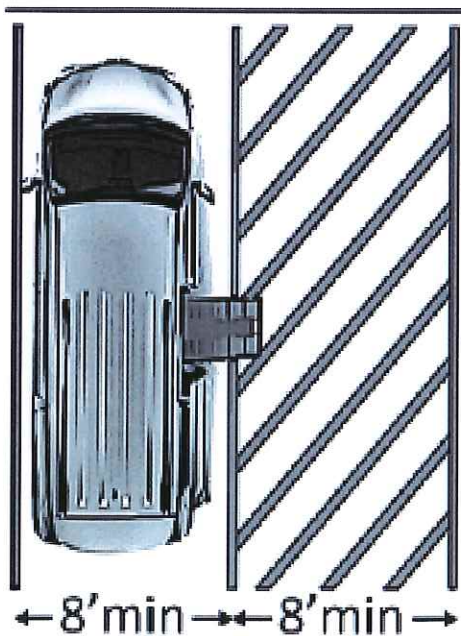

Figure 7
- Repaint lines at main entrance so that there is at least 3 accessible spaces on level ground. Spaces should be at least 96" wide with a 96" wide access zone (fig. 7). Two spots can share one access zone. At least one spot must be van accessible with the access zone on the passenger side.